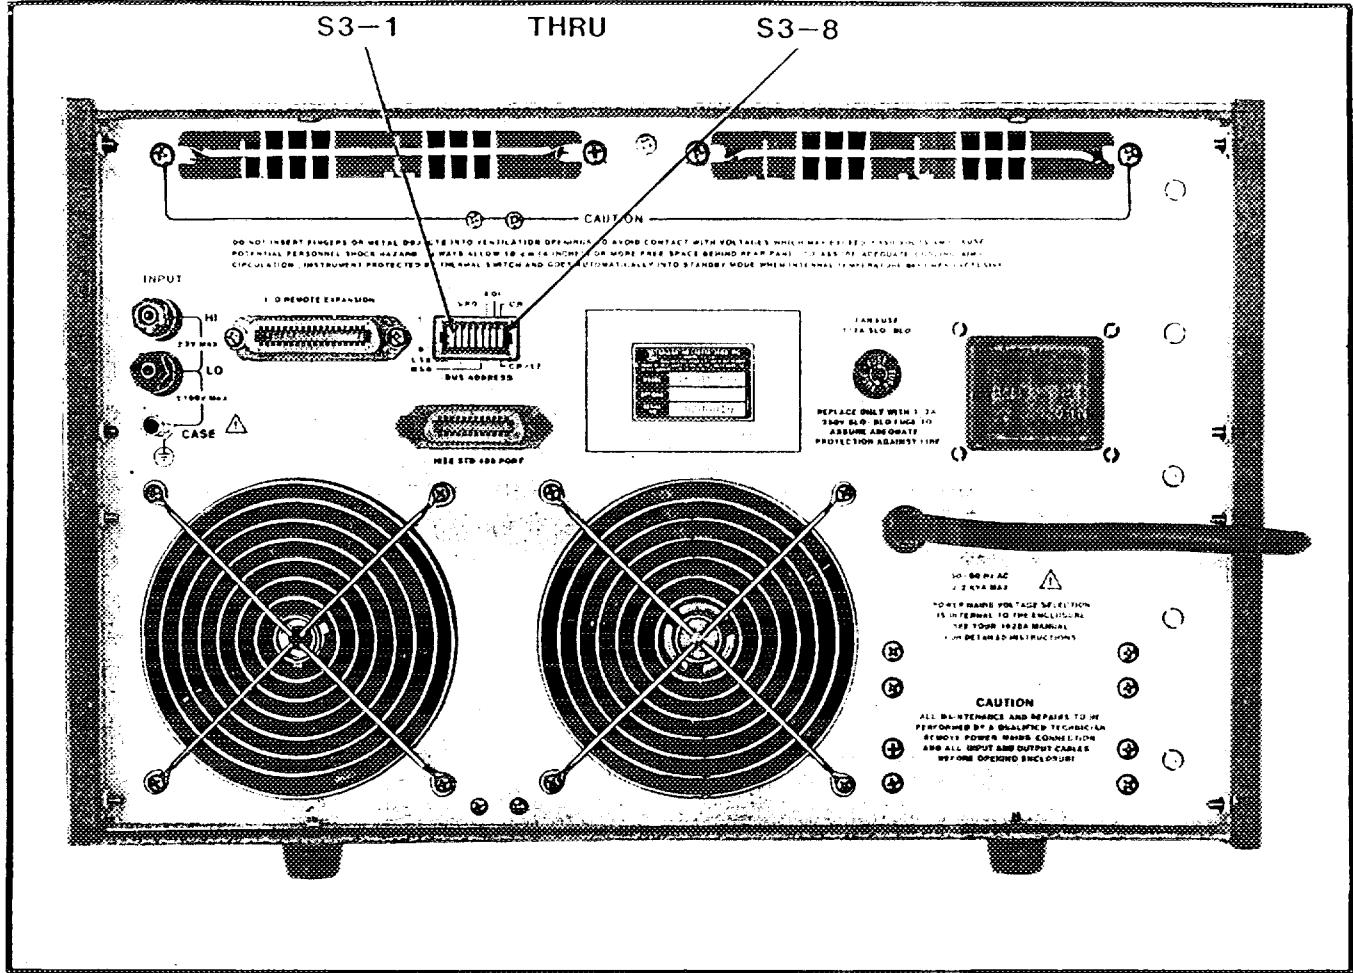

Figure 7-1. Model 1620A60 Rear Panel
**7-7.** Installation of the Option 60 in the 1620A adds the operator switches shown in Figure 7-1. Switches S3-1 through S3-5 are used to control the local address of the Calibrator. They may be set to the binary equivalent of any number, 1 through 30, that the controller has assigned the 1620A for an address. The setting for number 31 (11111) is reserved for the "Unlisten" instruction and sets the interface address using the codes in Table 7-1. In addition, switching S3-6 is used to select SRQ Enable, S3-7 is used to select EOI Enable, and S3-8 is used to select CR or LF Terminator.